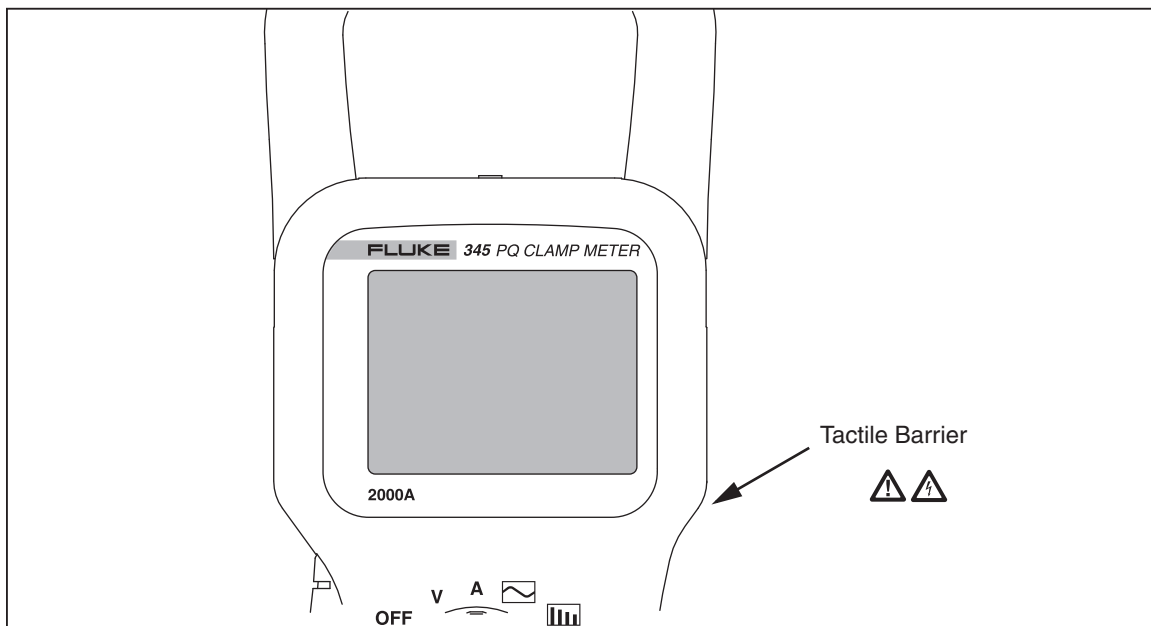

Figure 1. Tactile Barrier
- Do not hold the Clamp Meter anywhere beyond the tactile barrier, see Figure 1.